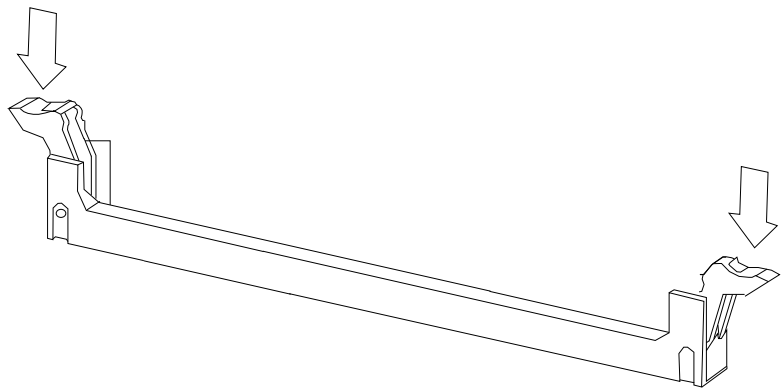

Figure D-9: Installing a 32-MB DSIMM Chip in the *Sun SPARCserver 5*
3. Unlock (press down) the ejector levers at both ends of the connectors (see Figure D-9).